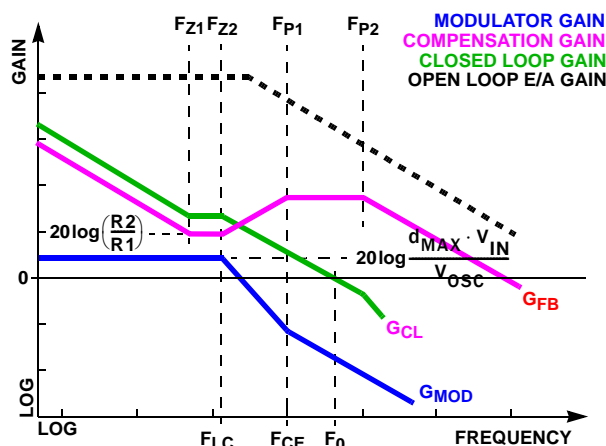

FIGURE 25. ASYMPTOTIC BODE PLOT OF CONVERTER GAIN
Figure 25 shows an asymptotic plot of the DC/DC converter's gain vs frequency. The actual Modulator Gain has a high gain
peak dependent on the quality factor (Q) of the output filter, which is not shown. Using the above guidelines should yield a compensation gain similar to the curve plotted. The open loop error amplifier gain bounds the compensation gain. Check the compensation gain at F_{P2} against the capabilities of the error amplifier. The closed loop gain, G_{CL} , is constructed on the log-log graph of Figure 25 by adding the modulator gain, G_{MOD} (in dB), to the feedback compensation gain, G_{FB} (in dB). This is equivalent to multiplying the modulator transfer function and the compensation transfer function and then plotting the resulting gain. A stable control loop has a gain crossing with close to a -20dB/decade slope and a phase margin greater than 45°. Include worst case component variations when determining phase margin. The mathematical model presented makes a number of approximations and is generally not accurate at frequencies approaching or exceeding half the switching frequency. When designing compensation networks, select target crossover frequencies in the range of 10% to 30% of the per-channel switching frequency, F_{SW} .